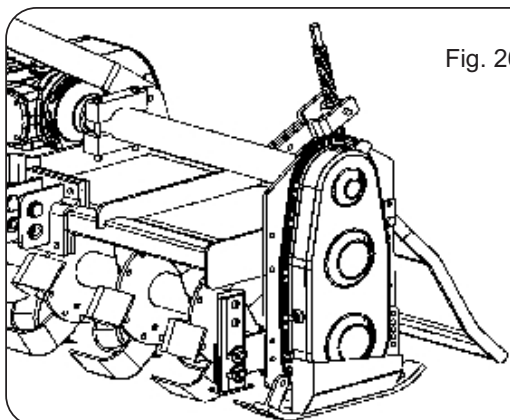

Fig. 26
- 1) Position the support foot as shown in the figure 26.